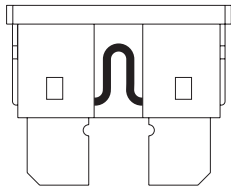

Figure 8. Working Fuse
The fuses help protect your Hurricane's lighting, control console assembly, and charging systems from receiving an overload of electrical current. The fuses used in the Hurricane PMV are the same type automobiles use. See figure 8.
- Examine the 5-amp charger fuse. If the fuse is blown, the batteries will not charge. See figures 8 and 9.